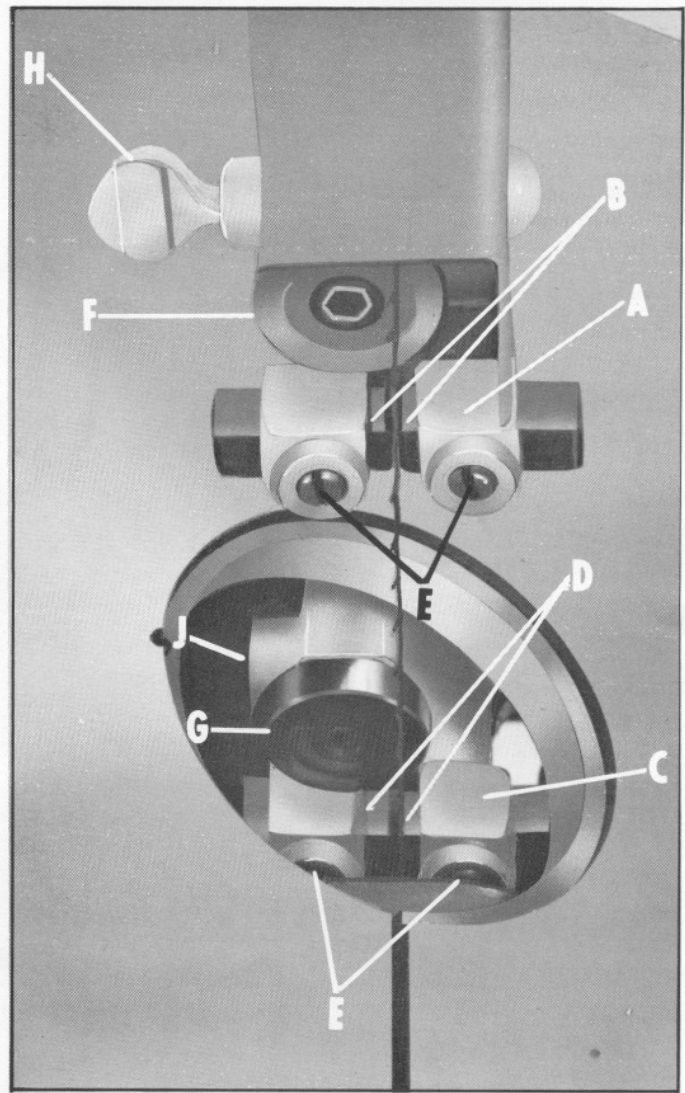

Fig. 10.
1. The upper bracket (A) Fig. 10, is held to the underneath of the guide post by a cap screw. Loosen the cap screw and move the guide bracket (A) in or out until the front edge of the guides (B) are just behind the "gullets" (bottom of saw teeth).
2. The lower bracket (C) Fig. 10, is mounted directly on the base casting by a square head bolt. Loosen the bolt and move the guide bracket (C) in or out until the front edge of the guides (D) are just behind the "gullets" (bottom of the saw teeth).
3. The guides (B) and (D) Fig. 10, are held in the guide brackets with set screws (E). Loosen set screws (E) and adjust guides as close as possible to the side of the blade being careful not to pinch the blade.
The support bearings (F) and (G) Fig. 10, prevent the blade from being pushed too far to the back which could damage the set in the saw teeth. The support bearings (F) and (G) should be set about 1/64" behind the blade, as follows:
1. Loosen thumb screw (H) Fig. 10 and move upper support bearing (F) 1/64" behind the back edge of the blade and tighten thumb screw (H).
2. Loosen set screw (J) and move lower support bearing (G) 1/64" behind the back edge of the blade and tighten set screw (J).